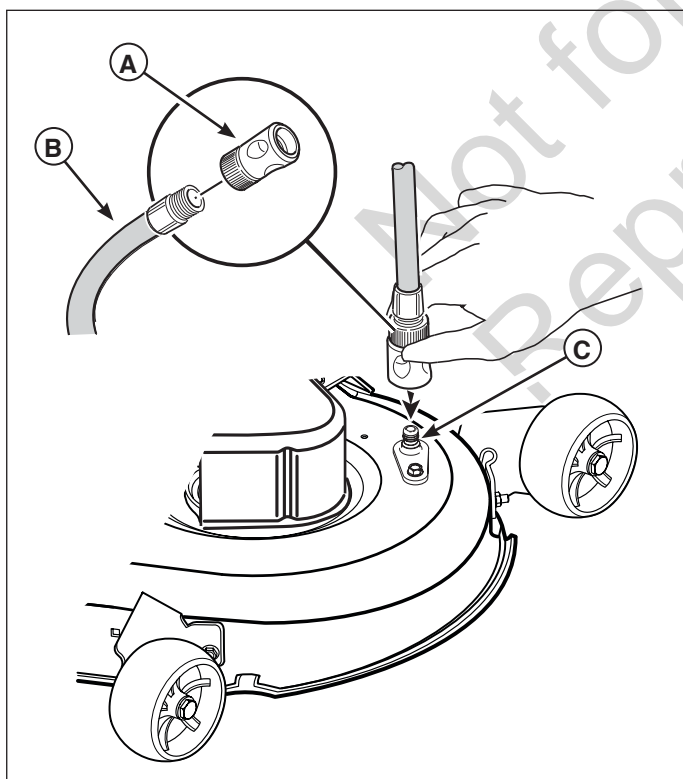

Figure 12. Mower Deck Washout Port
2. Attach the quick disconnect (**A**, Figure 12) to a garden hose (**B**), and connect to the washout port (**C**) on the mower deck.